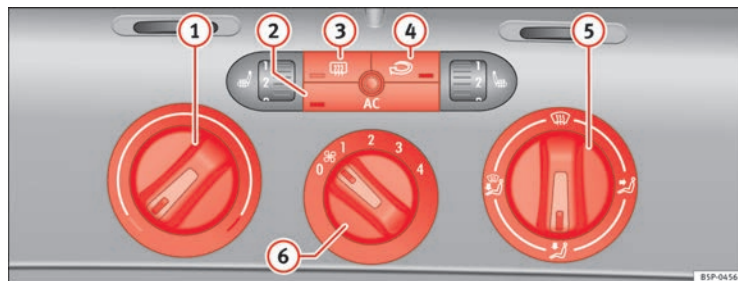

Fig. 107 On the dash panel: Climatic controls
- Using the knobs ⇒ fig. 107 ① and ⑤ and knob ⑥ you can set the temperature, air distribution and blower speed.
- To switch a function on or off, press the appropriate button ②, ③ or ④. When the function is activated, the display window in the lower corner of the button is lit.
- ① Temperature selector ⇒ page 151
- ② AC button – Air conditioning system on/off ⇒ page 151
- ③ button – Heated rear window The heating will be switched off automatically approximately 20 minutes after switching on. It can also be switched off beforehand by pushing the button.
- ④ Button – Air recirculation mode ⇒ page 152
- ⑤ Air distribution control ⇒ page 151
- ⑥ Blower switch. There are four speed settings for the air flow. The air flow should always be set at the lowest speed when driving slowly.
- Switch on the air conditioner using the button ⇒ page 150, fig. 107 (AC).